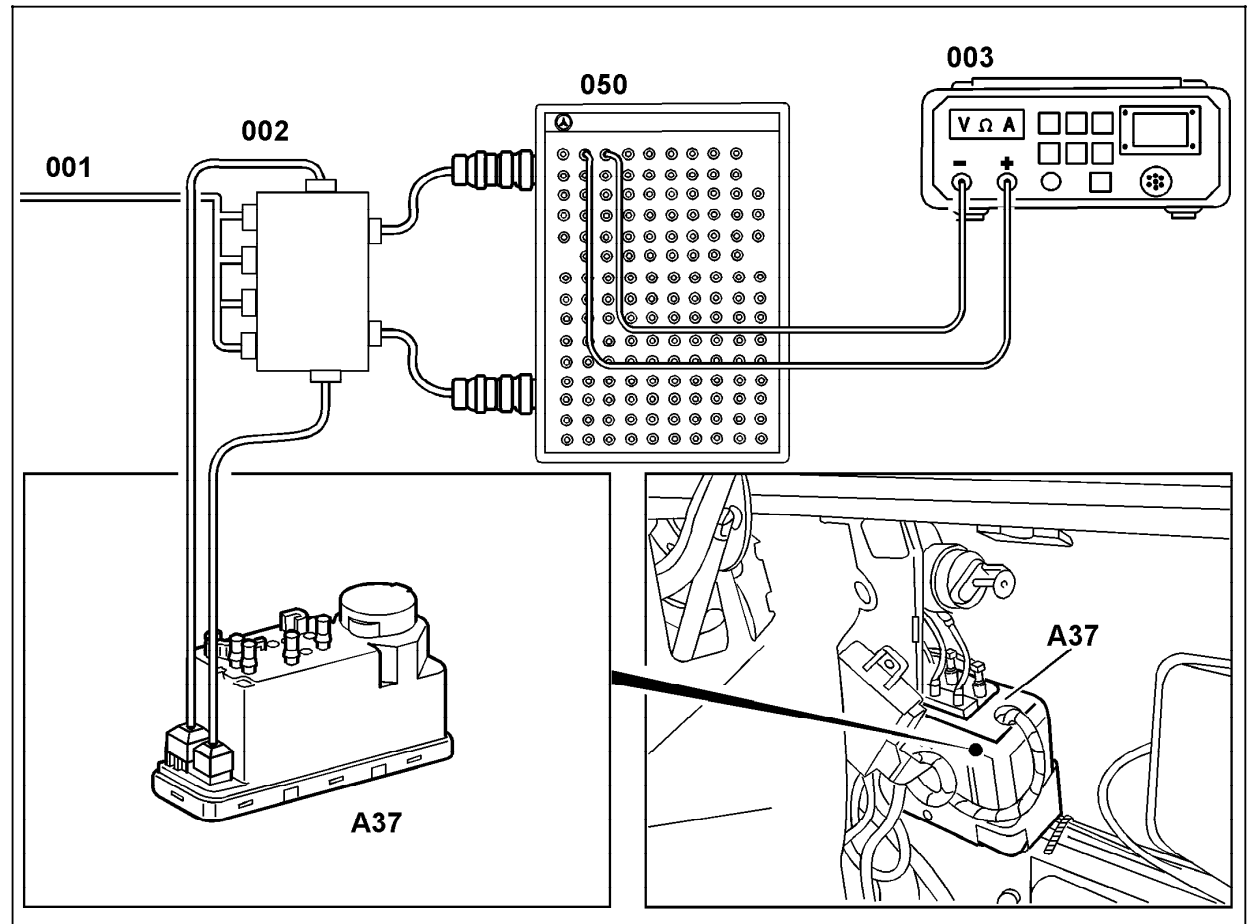

Figure 1
5. Connect socket box with test cable according to connection diagram, see 22, Figures 1, 2 and 3 accordingly, for model being tested.